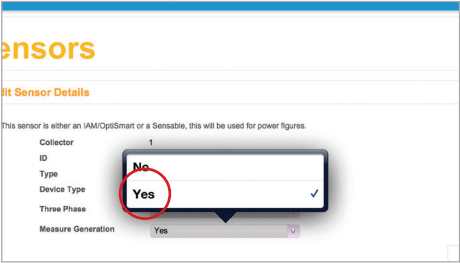

fig.28
- 9. Click on the ‘Measure Generation’ drop-down, and select Yes (fig.28).